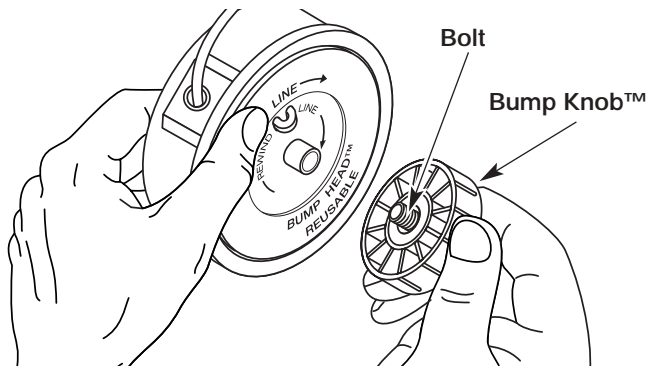

Fig. 27
1. Hold the outer spool with one hand and unscrew the Bump Knob™ counterclockwise (Fig. 27). Inspect the bolt inside the Bump Knob to make sure it moves freely. Replace the Bump Knob if damaged.
1. Hold the outer spool with one hand and unscrew the bump knob counterclockwise (Fig. 27). Inspect the bolt inside the bump knob to make sure it moves freely. Replace the bump knob if damaged.
2. Remove the old inner reel from the outer spool (Fig. 27).
3. Remove the spring from the old inner reel (Fig. 27).